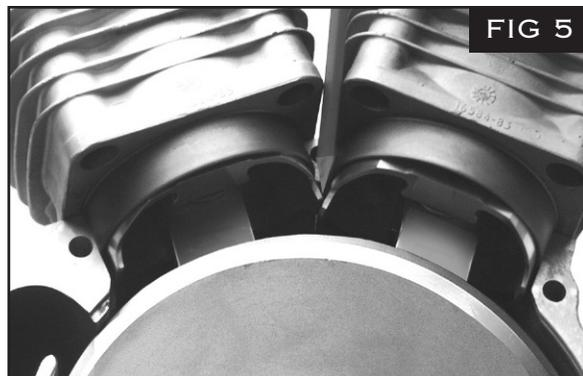

FIG 5
With the flywheel assembly mocked up in left case only, install cylinders and pistons, (no rings on the pistons as before). Make sure they are installed properly. The beveled cut away on the cylinder base points towards the center of the engine. Securely install the cylinders with (2) nuts on each cylinder. Rotate flywheel assembly slowly until pistons make contact with each other (or just start to pass by each other.) See fig 5. A minimum of $.100$ " clearance is required for the pistons to clear each other.